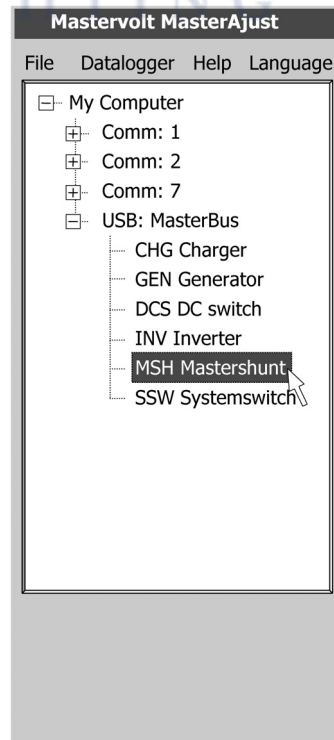

Figure 12
- 1 See figure 12. In the left tree-view click on the command source (Example: *MasterShunt*).